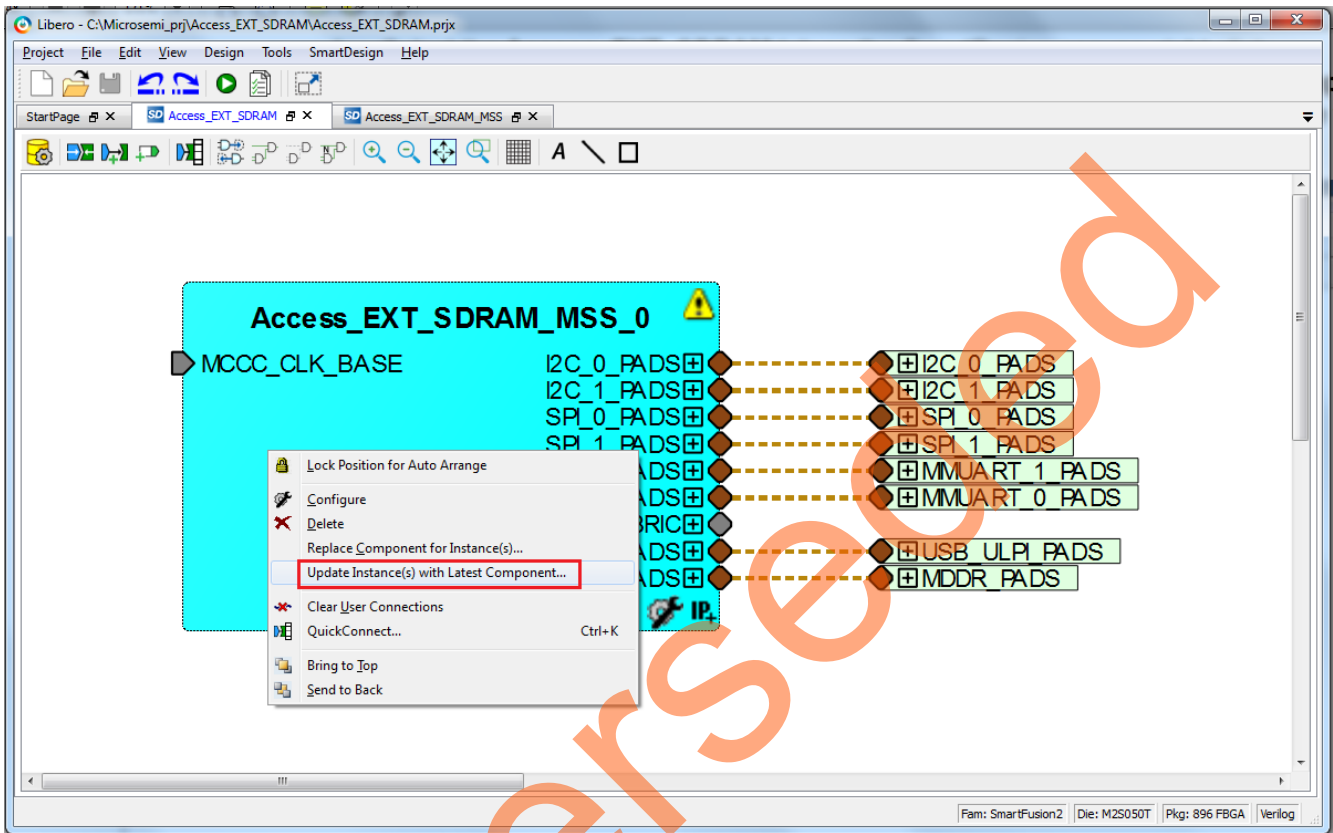

Figure 14. Updating the MSS
1. Select the **Access\_EXT\_SDRAM** tab on the SmartDesign canvas, right-click **Access\_EXT\_SDRAM\_MSS\_0**, and select **Update Instance(s) with Latest Component**, as shown in Figure 14.